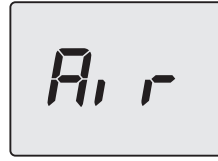

Figure 6.12
- At the end of the procedure the display will show the following (Figure 6.12).